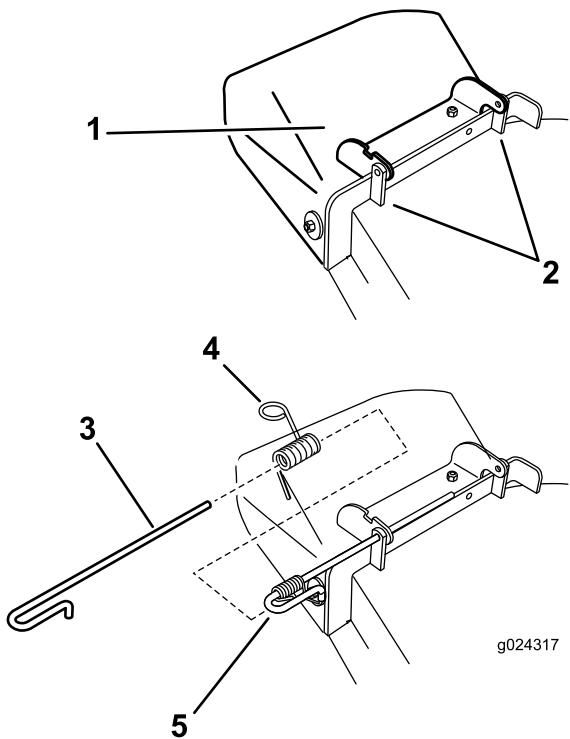

Figure 67
1. Disengage the spring from the notch in the deflector bracket and slide the rod out of the welded deck brackets, spring, and discharge deflector (Figure 67).
3. Position the new discharge deflector assembly with the bracket ends between the welded brackets on the deck as shown in Figure 67.
4. Install the spring onto the straight end of the rod. Position the spring on the rod as shown in Figure 67 so